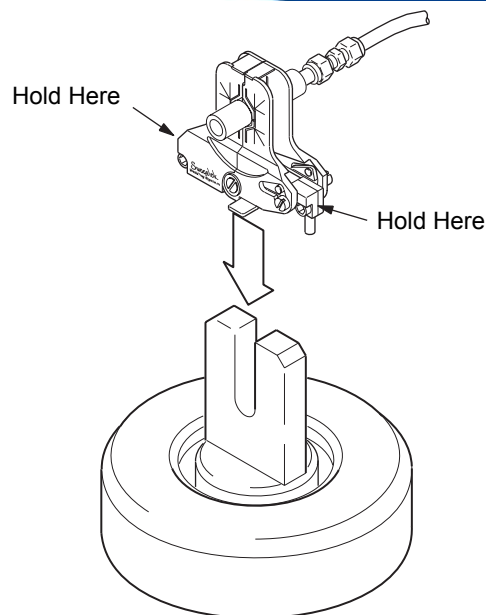

Figure 20 Cooling Plate
- Because the fixture is small, heat build-up may make the device too hot to handle immediately after welding. Hold the fixture in the base areas shown in Figure 20. Use the optional aluminum cooling plate to hold the fixture and allow it to cool faster. See Figure 20.